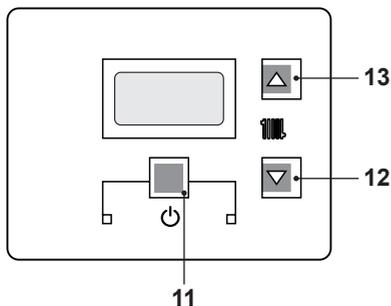

Fig. 2.5
- Press the key 11 for 2 seconds until  symbol appears on the display Fig. 2.5.
The output temperature of c.h. water can be adjusted by acting on keys 12 (reduce) and 13 (increase) (Fig. 2.5) from a minimum of about 25°C to a maximum of about 85°C. Press one of the two keys once to display the "set" value. Press again to access the modification.
However, if the ambient temperature is not comfortable, the flow temperature of the heating plant can be increased or reduced by $\pm 15^\circ\text{C}$ by acting on keys 12 (reduce) and 13 (increase) (Fig. 2.5).